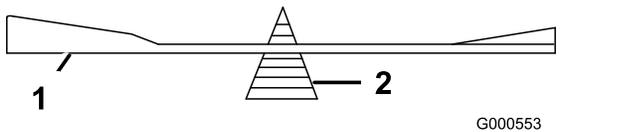

Figure 118
2. Check the balance of the blade by putting it on a blade balancer (Figure 118).